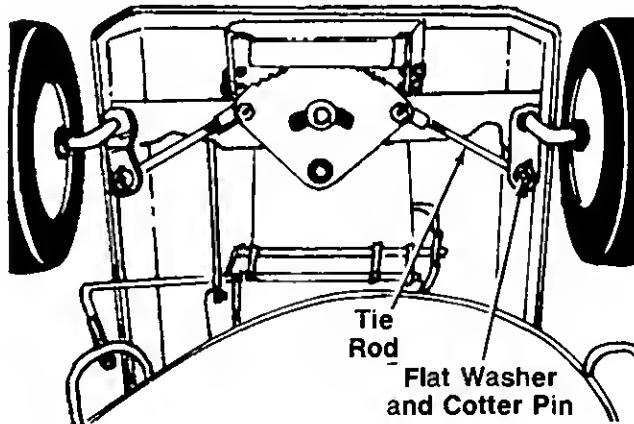

FIGURE 23.
The caster (forward slant of the king pin) and the camber (tilt of the wheels out at the top) require no adjustment. Automotive steering principles have been used to determine the caster and camber on the mower. The front wheels should toe-in $1/8$ inch. See figure 23. To adjust, follow these steps:
1. Remove the cotter pin and flat washer which hold the tie rod to the axle bracket. See figure 23.